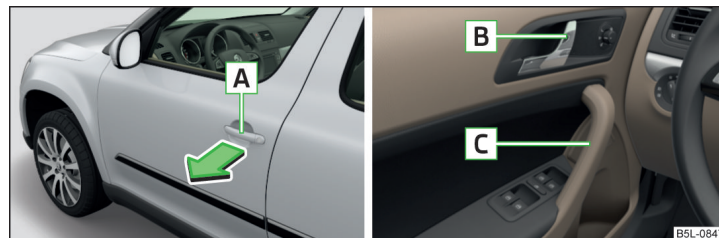

Fig. 38 Door handle/door opening lever:
► Pull on the door handle in the direction of the arrow » Fig. 38.